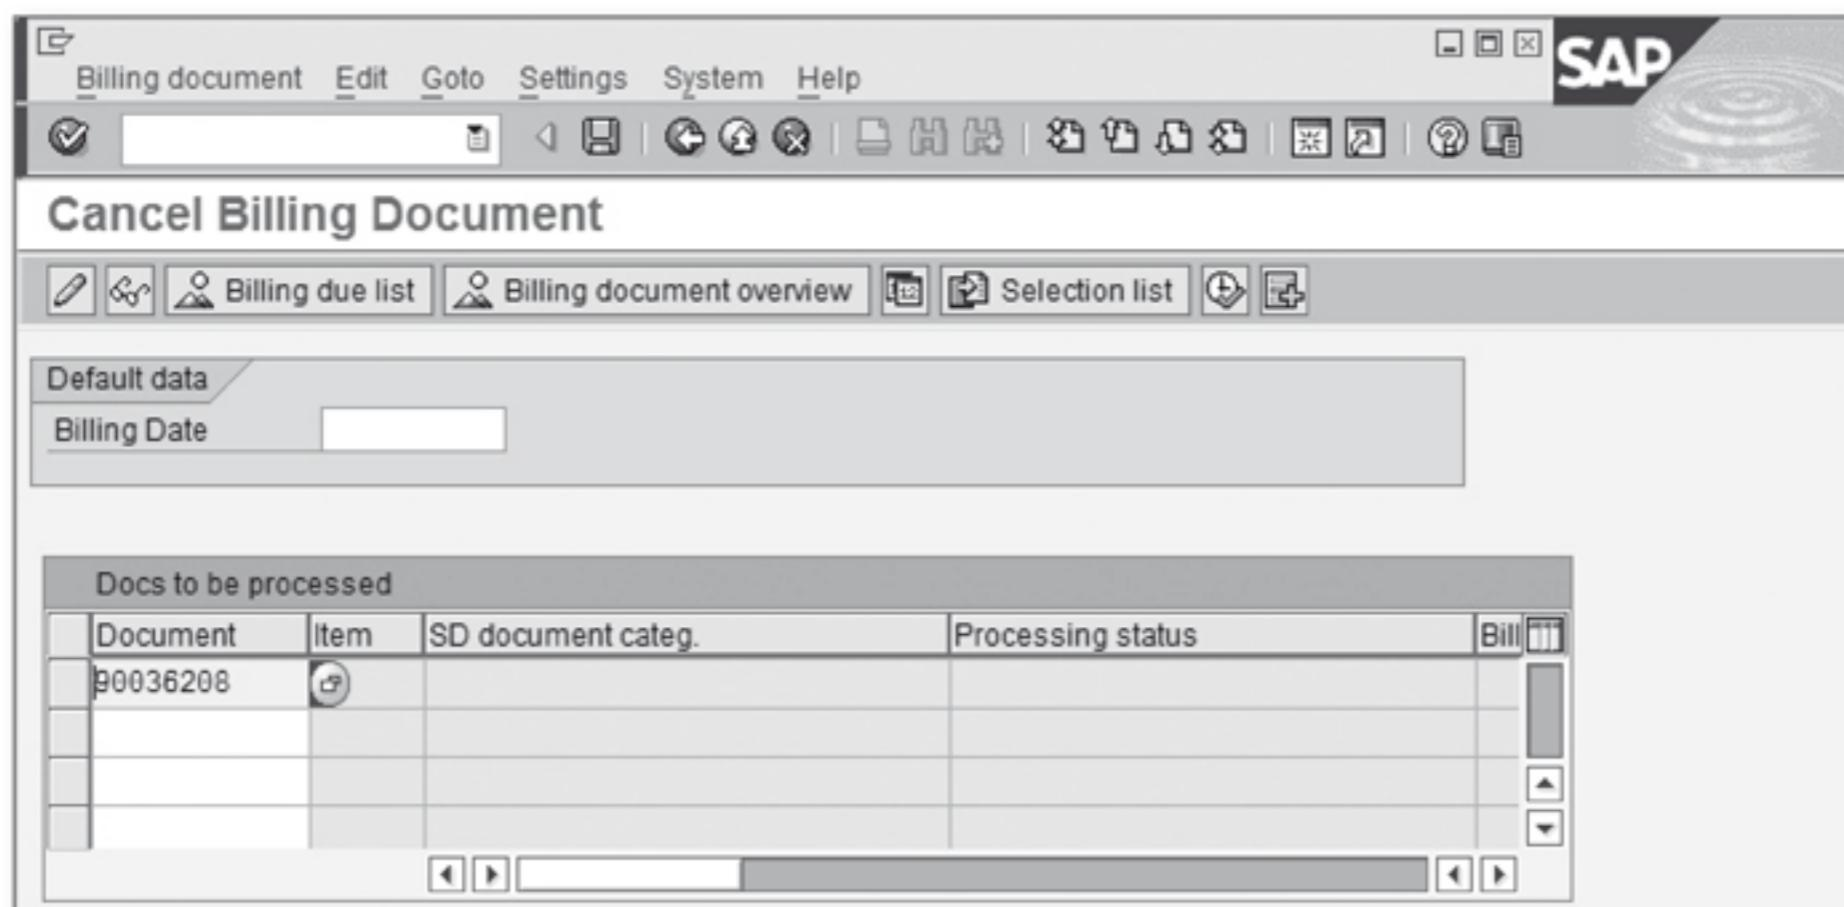

Figure 5.25 Cancel Billing Document – Initial Screen
1. You can start the transaction and enter the billing document number for cancellation (Figure 5.25).